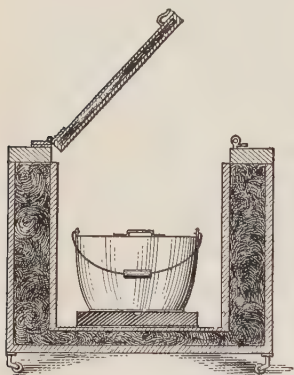

FIGURE 175.—FIRELESS COOKER.
**121. Fireless Cooker.** — In a fireless cooker (Figure 175), a double-walled box with the space between packed with fibrous material, acts very much like the vacuum bottle described above. Food to be cooked is raised to the cooking temperature over a fire and then, together with hot iron or stone plates to maintain the heat supply, is put into the cooker and the cover put on tightly. While the insulation is not as good as in the vacuum bottle, the food will remain at the cooking temperature for several hours before enough heat has escaped to stop the cooking. Fuel is used only during the time required to heat the food to cooking temperature and to heat the plates. Fireless cookers are adapted to the preparation of foods requiring slow cooking.